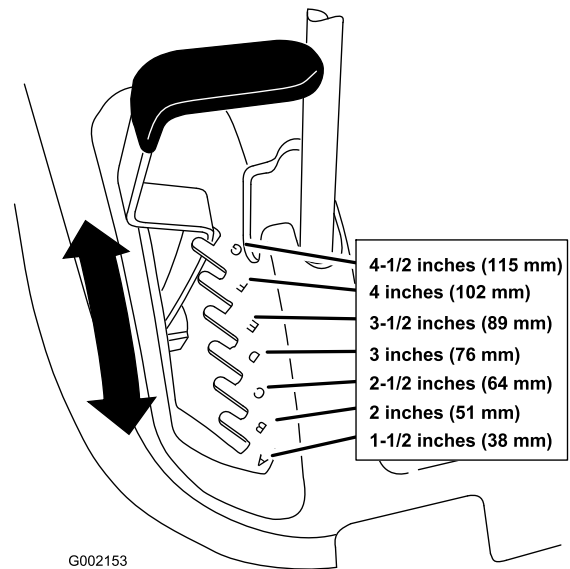

Figure 15
1. Raise the height-of-cut lever to the transport position (also the 4-1/2 inch (114 mm) cutting height position (Figure 15).
2. To adjust, pull up on the height-of-cut lever and move it to the desired position (Figure 15).